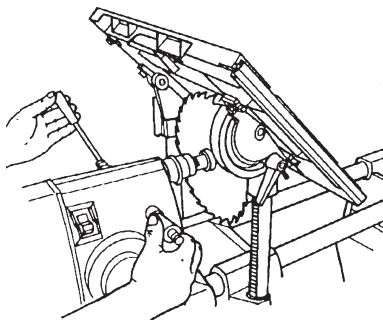

Figure 37
4. Loosen the Quill Feed (shown in Figure 37) and extend the Quill so the Saw